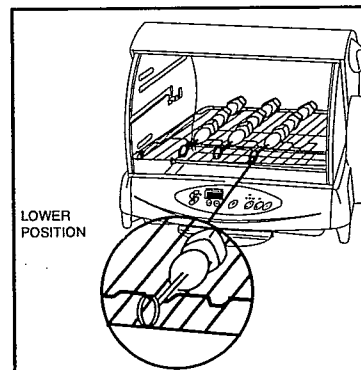

Figure 11
2. Hold Wire Rack upside down (so two cross wires are on top). Arrange Wire Rack so cross wire closest to end will go into the Rotisserie Oven first (it will be toward the back). Place Wire Rack into oven at **lower** position as shown in Figure 11. Be sure Rack is on both front and back parts of ledge.